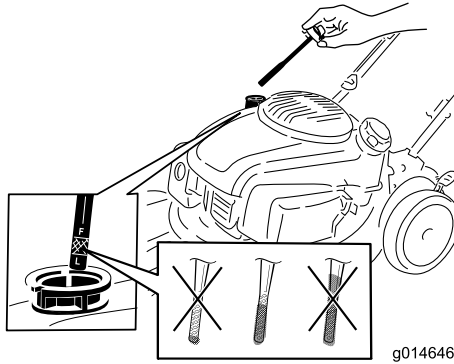

Figure 5
1. Remove the dipstick (Figure 5).
2. **Slowly** pour oil into the oil-fill tube until the oil level reaches the Full line on the dipstick (Figure 5). **Do not overfill.** (Max. fill: 0.65 L (22 oz), type: 10W-30 or SAE 30 detergent oil with an API service classification of SJ or higher.)
**Note:** Each time you check the oil level, remove the dipstick and wipe it clean, insert it into the oil filler neck (but **do not** screw it in), then remove it again and check the level (Figure 5).